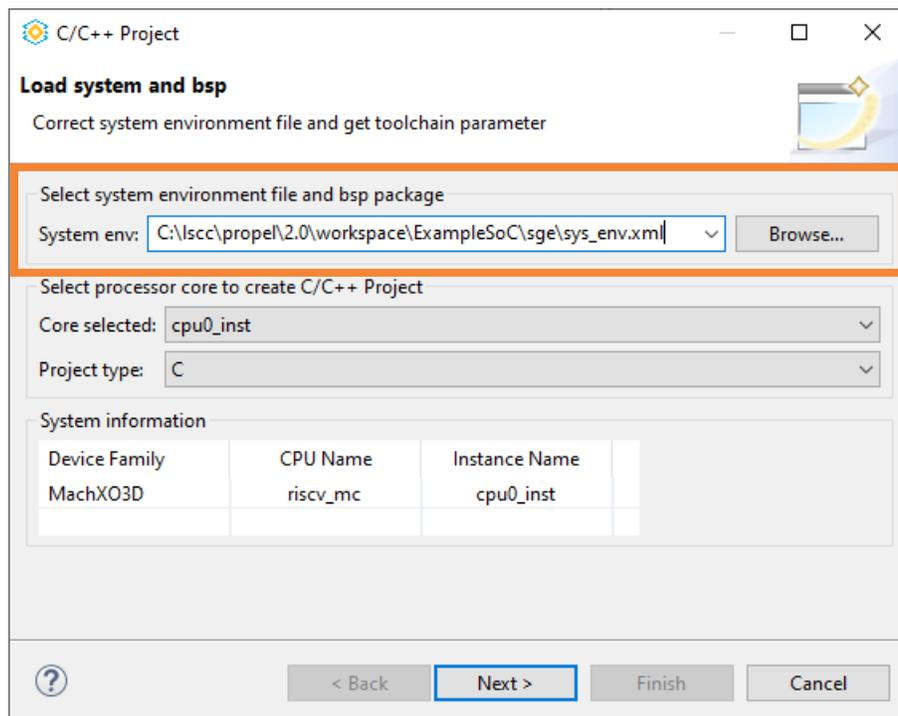

Figure 4.8. Load System and BSP Page
The C/C++ Project wizard opens with **Load system and bsp** page (Figure 4.8.).
4. Select the system environment file just generated (Figure 4.8.). Click **Next**.